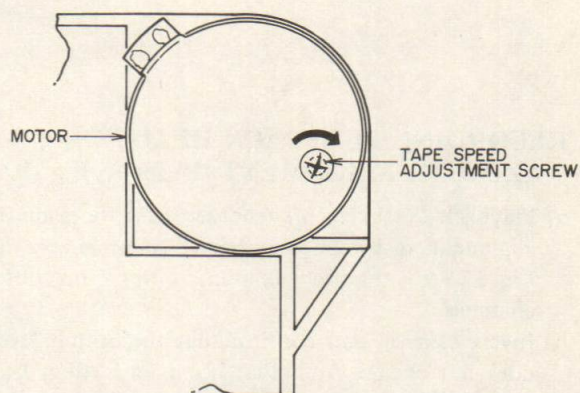

Fig. 11
5. TAPE SPEED ADJUSTMENT (Refer to Fig. 11)